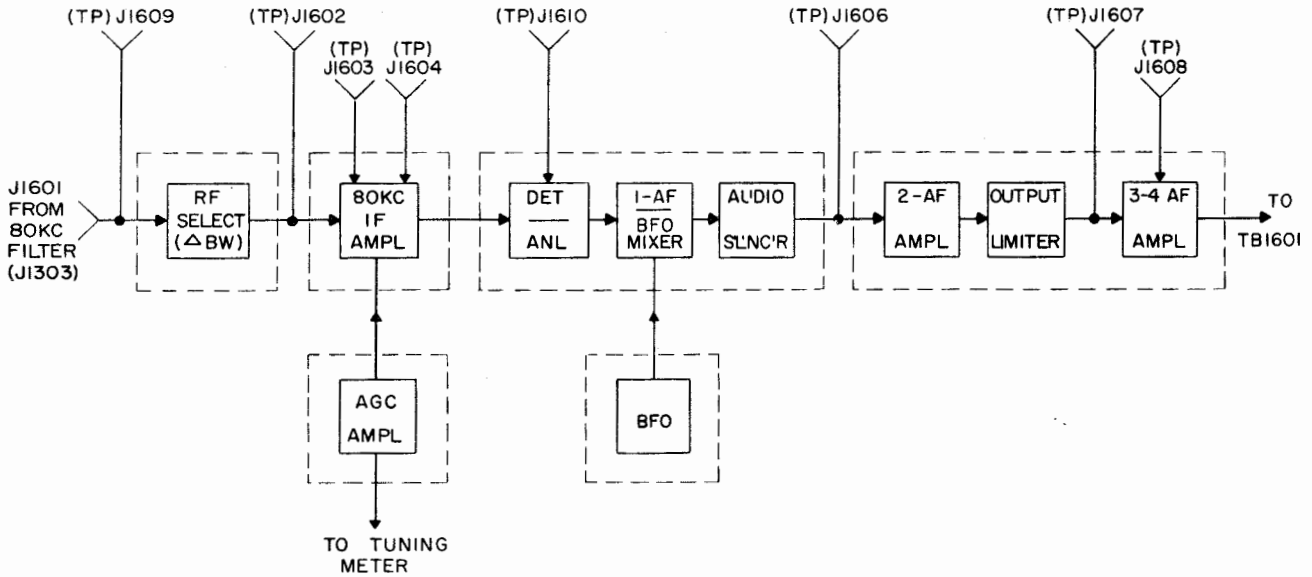

Figure 5-26. AM Detector-Amplifier, Functional Block Diagram
a. DIAGRAMS.—Figure 5-26 is a functional block diagram showing the relationship among circuit sections of the AM detector-amplifier. For a complete schematic